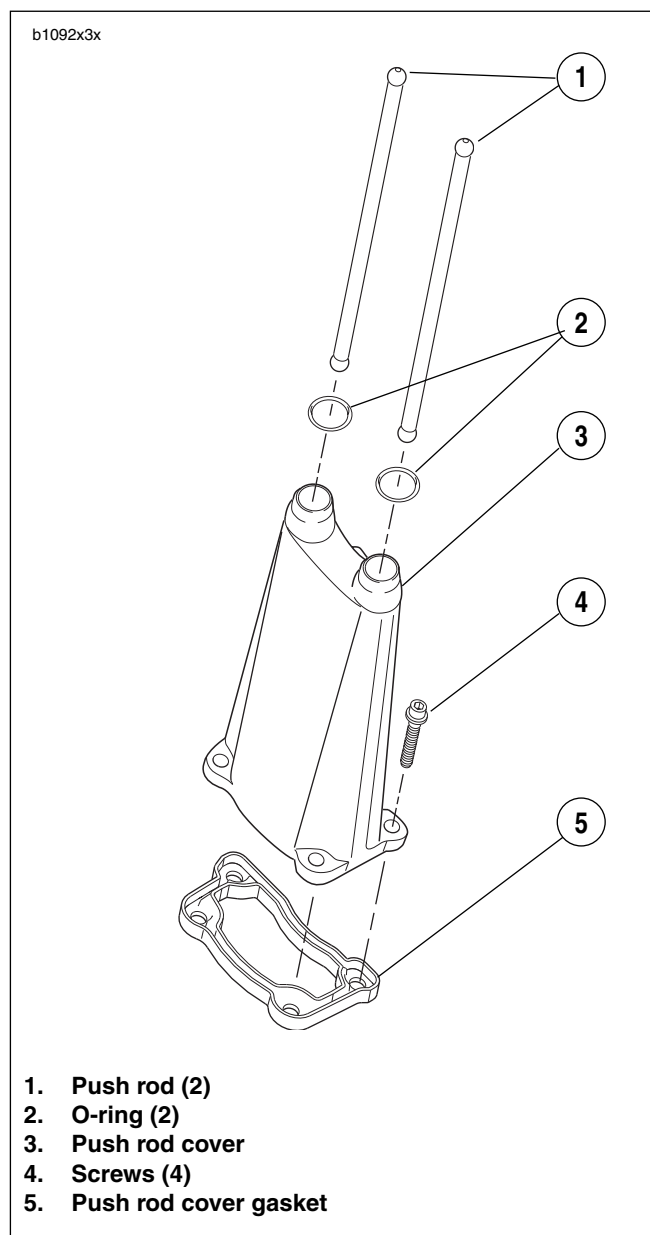

Figure 3-84. Push Rods and Push Rod Cover Assembly
1. See Figure 3-84. Install push rod covers.
- a. Install **new** o-rings (2) on top of each push rod cover (3).
- b. Install **new** push rod cover gasket (5) onto bottom of each push rod cover.
- c. Install each push rod cover assembly and start the fasteners (4) securing the bottom of each cover to the crankcase.